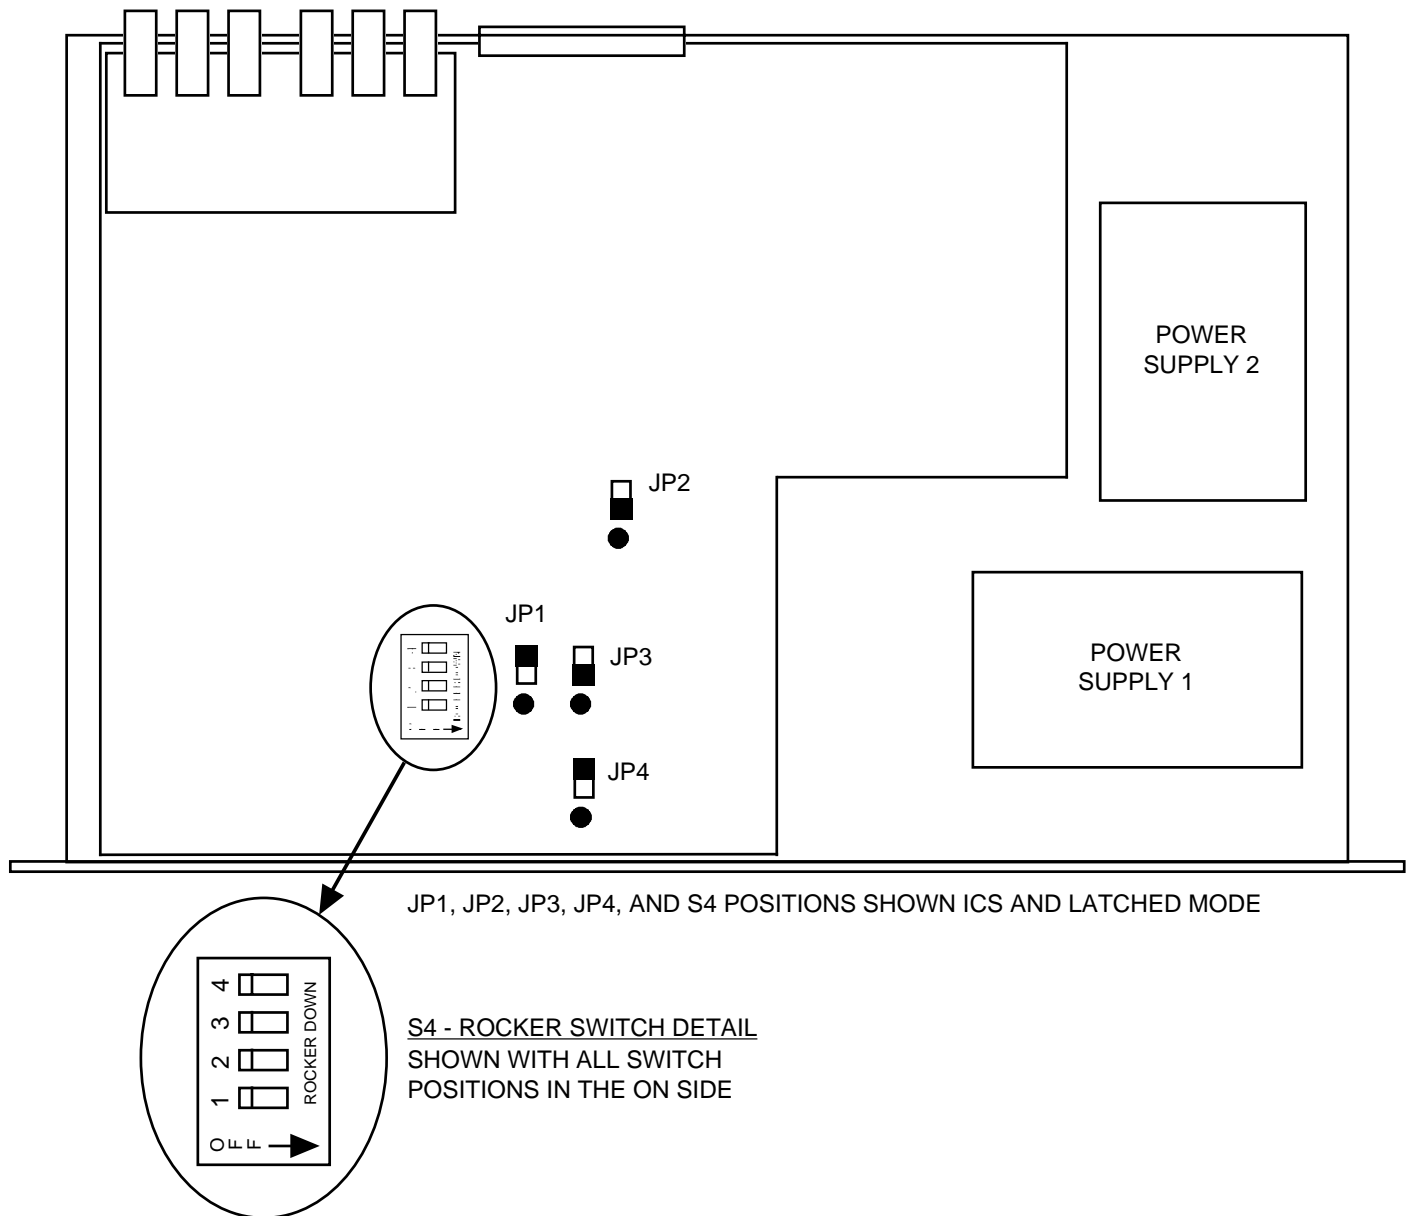

FIGURE 2.1 1582-71/72 RF Switch Assembly
1. Set the on board controls as desired (see Sections 2.3.1 and 2.5, and Figure 2.1).